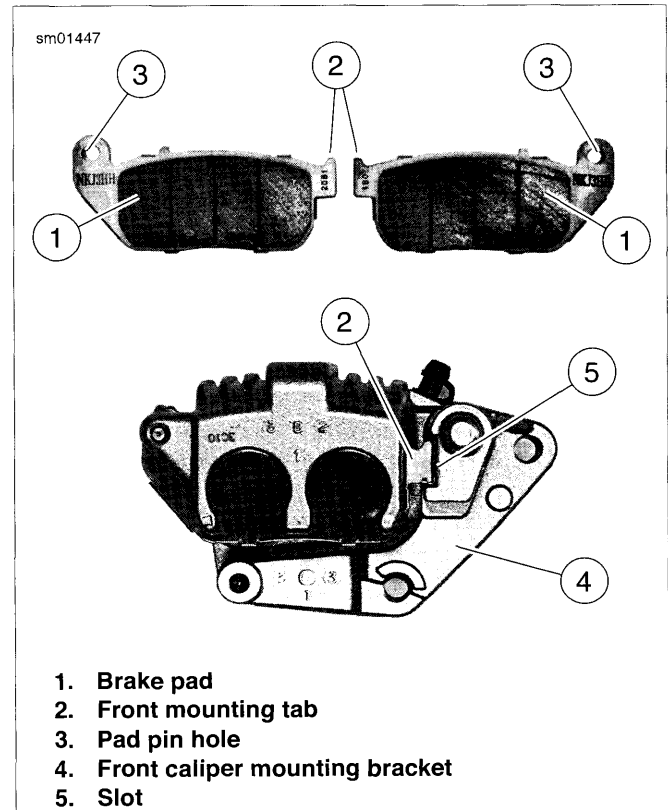

Figure 2-67. Front Brake Pads
1. See Figure 2-67. Insert one set of brake pads (1) into caliper with friction material on pad facing opening for brake disc. Curved portion of pad fits into recessed area of caliper. Make sure brake pad front mounting tab (2) fits into slot (5) in caliper mounting bracket (4).
- See Figure 2-67. Pad front mounting tabs (2) must be fully seated in mounting bracket slot (5).